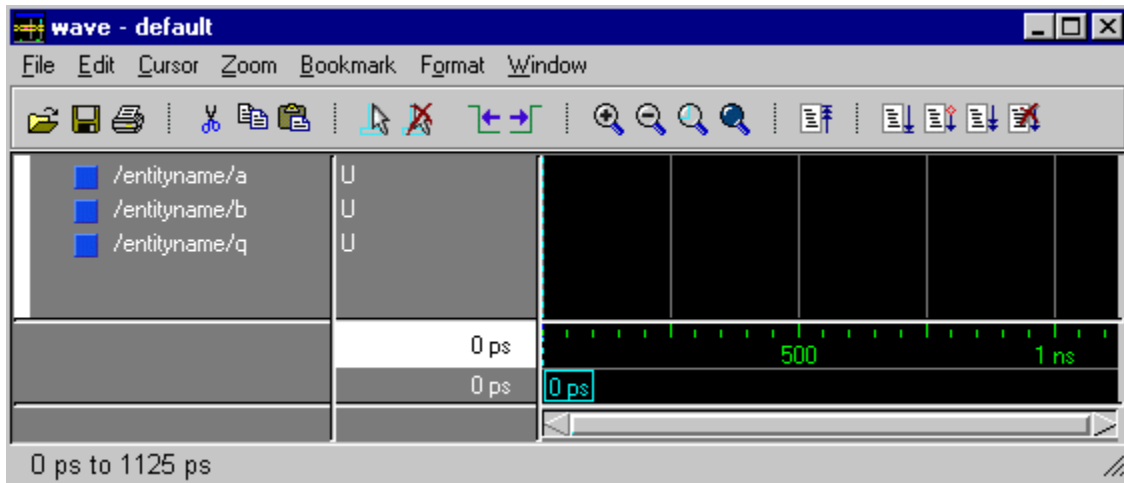

Figure 12 Wave
- Go to the **Run** menu and select **Restart**, this clears the waveform window as shown in **Figure 12**.